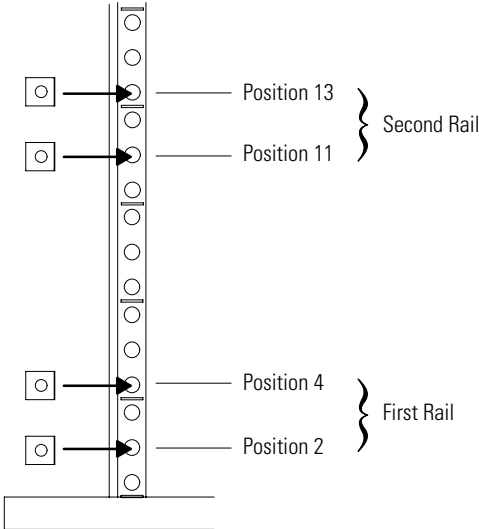
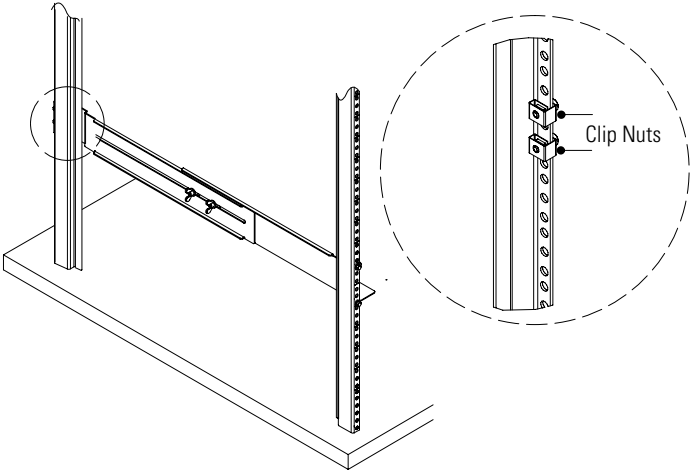

Figure 12. Rear Rail Screw Positions for the EBM
Figure 13. Securing the Rear Rail
- 4. Using two clip nuts and two hex-head screws, attach the rail to the rear of the rack (see Figure 12 and Figure 13).